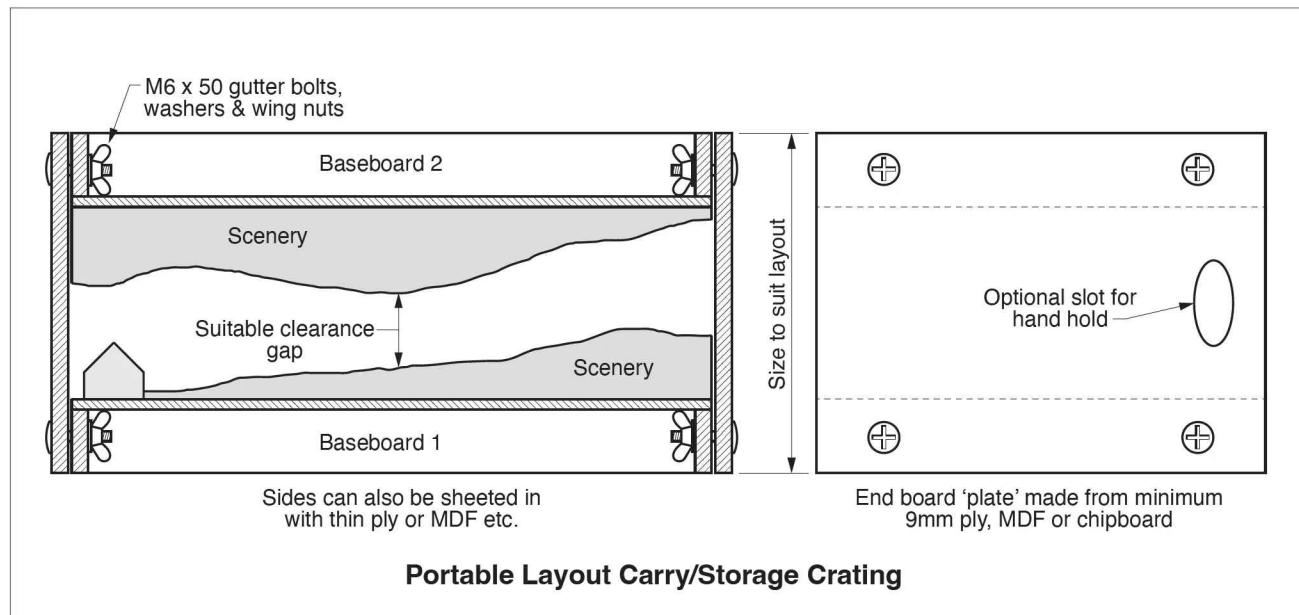

Figure 7: Crating two identically sized baseboards
**Crating** consists of two identically sized baseboards held scenic side to scenic side by two end plates and where necessary a light sheeting of ply is added to both long sides to form a totally enclosed box. The other option is to make two identically sized boards, hinged and fold up onto each other. The height of the hinge pillars is determined by the two boards' scenery height plus a small amount for clearance. (See Figures 7 and 8.)